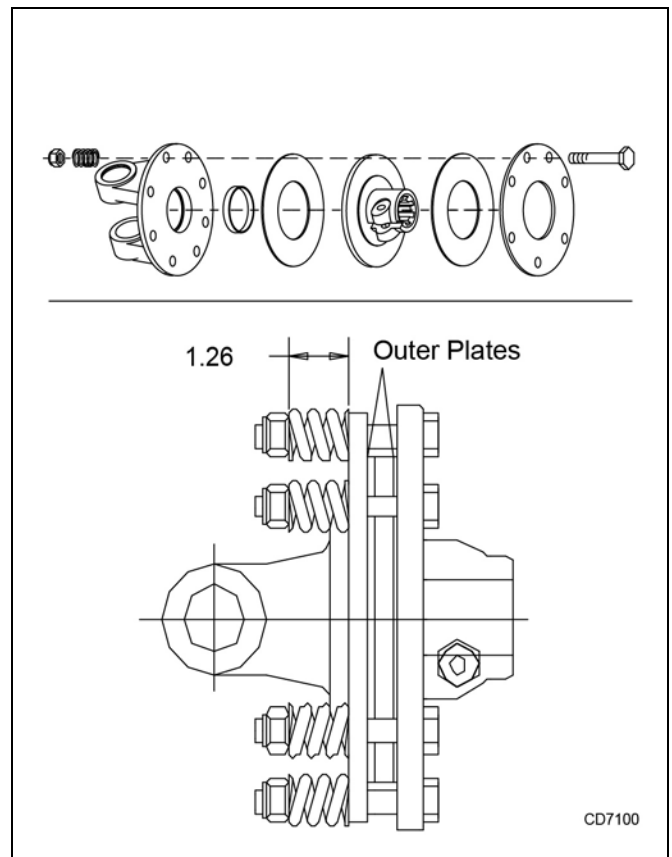

Figure 12. Slip Clutch Assembly
- Mark outer plates of slip-disc clutch as shown in Figure 12.